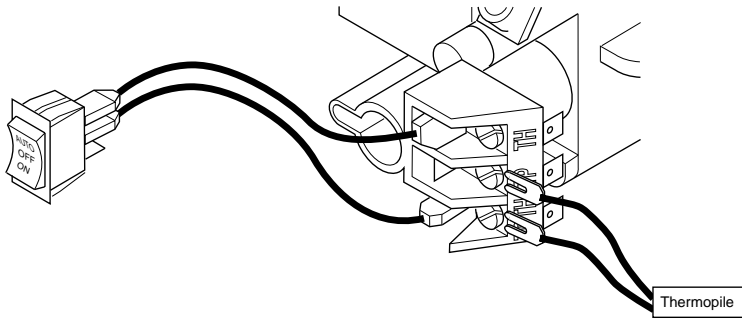

Figure 40 - Switch Wiring Diagram
*Note:* For proper operation of optional accessories, the wires from the switch to the control must be connected exactly as shown in Figure 40.